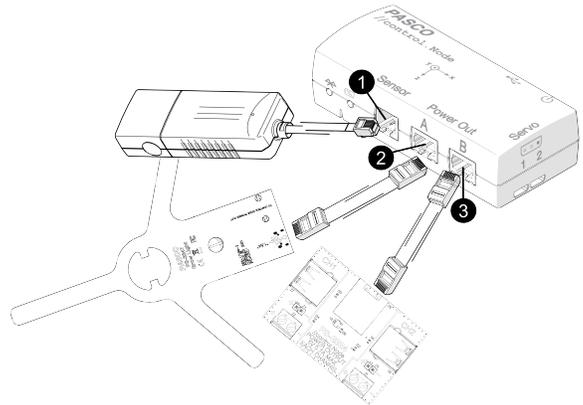

Figure 1. //control.Node Setup
1. Plug the Greenhouse Sensor into the Sensor port **1** on the //control.Node as shown in Figure 1. Connect the Grow Light to port A **2** and connect the Power Output Module to port B **3**.